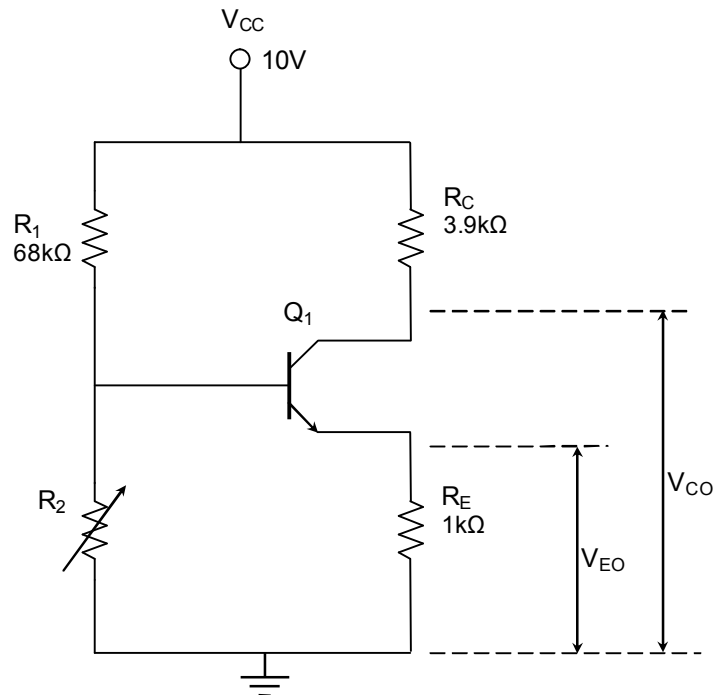

Figure 6.2: Common-emitter circuit
- (i) For the first part, you should perform DC sweep on the circuit shown in Figure 6.2 to find  $R_2$  for the Q-point ( $V_{CE}=5V$ ,  $I_C=1mA$ ). Also, you should measure  $V_{CEQ}$ ,  $I_{CQ}$  ( $\approx I_{EQ}$ ) for  $R_2 = 1k\Omega$ ,  $5k\Omega$ ,  $15k\Omega$ , and  $25k\Omega$  on the same circuit.
2. Set up the circuit using the secondary transistor, as shown in Figure 6.2 without connecting the capacitors or the source voltage  $V_S$ . Use a decade box for  $R_2$  and adjust it until  $V_{CE}$  is about 5V.  $R_2$  will probably be close to 15 k $\Omega$ . Measure and record  $V_{E0}$ , or the emitter-to-ground voltage using the DMM. From this voltage measurement and the value of  $R_E$ , find  $I_E \approx I_C$ . Also measure and record  $V_{CE}$ .
1. Keep the primary transistor in the circuit shown in Figure 6.2. Vary  $R_2$  through the following values and measure and record the resulting Q-point ( $V_{CE}$  and  $I_C$ ): 1kΩ, 2kΩ, 5kΩ, 8kΩ, 10kΩ, 15kΩ, 18kΩ, 20kΩ, 25kΩ, 30kΩ.